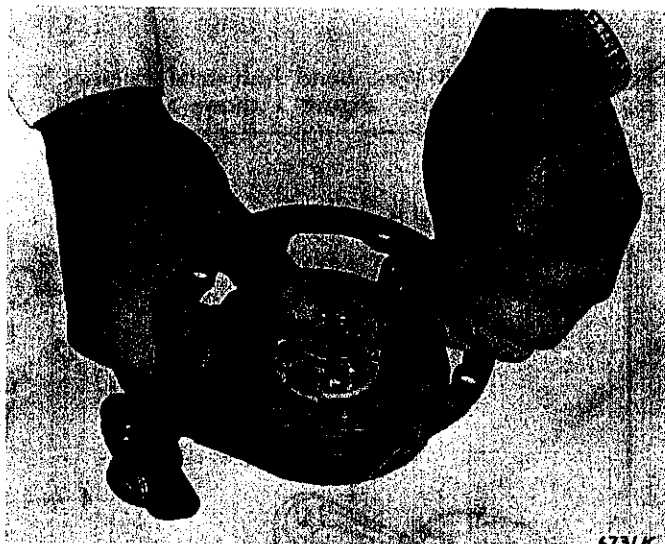

FIGURE 3. REMOVING RETAINING RING
3. Remove snap ring from starter hub using T1081 pliers as shown in Fig. 3, being careful not to damage snap ring. Hold the retaining washer in place when removing snap ring to avoid losing the friction shoe and spring components.
13. Hold rope in notch in pulley and turn pulley approximately 4 turns in a counter-clockwise direction for right hand starters. For left hand starters turn pulley in a clockwise direction. This will establish the correct initial tension. For reference purposes, Fig. 3 shows a right hand starter assembly.